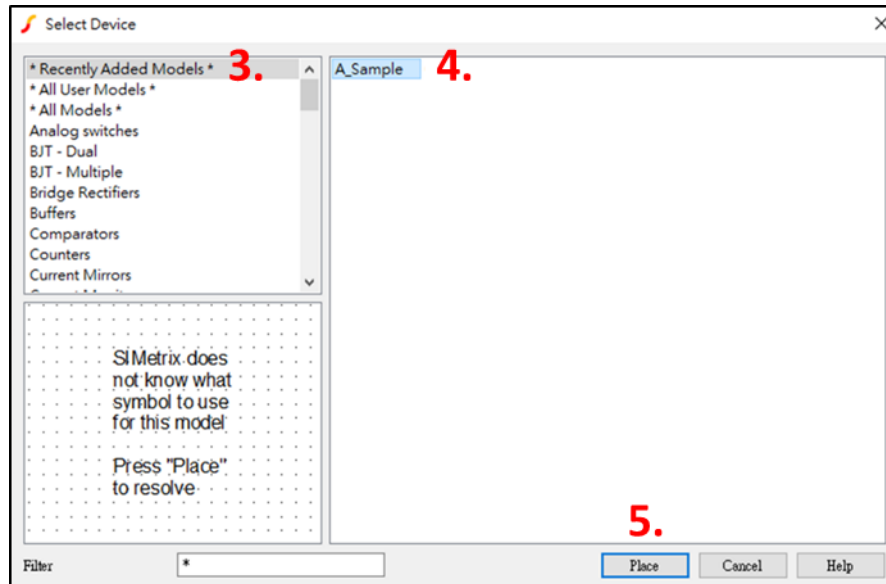

Figure 5
3. Select the **"Recently Added Models"** on the left window (as shown in Figure 5)